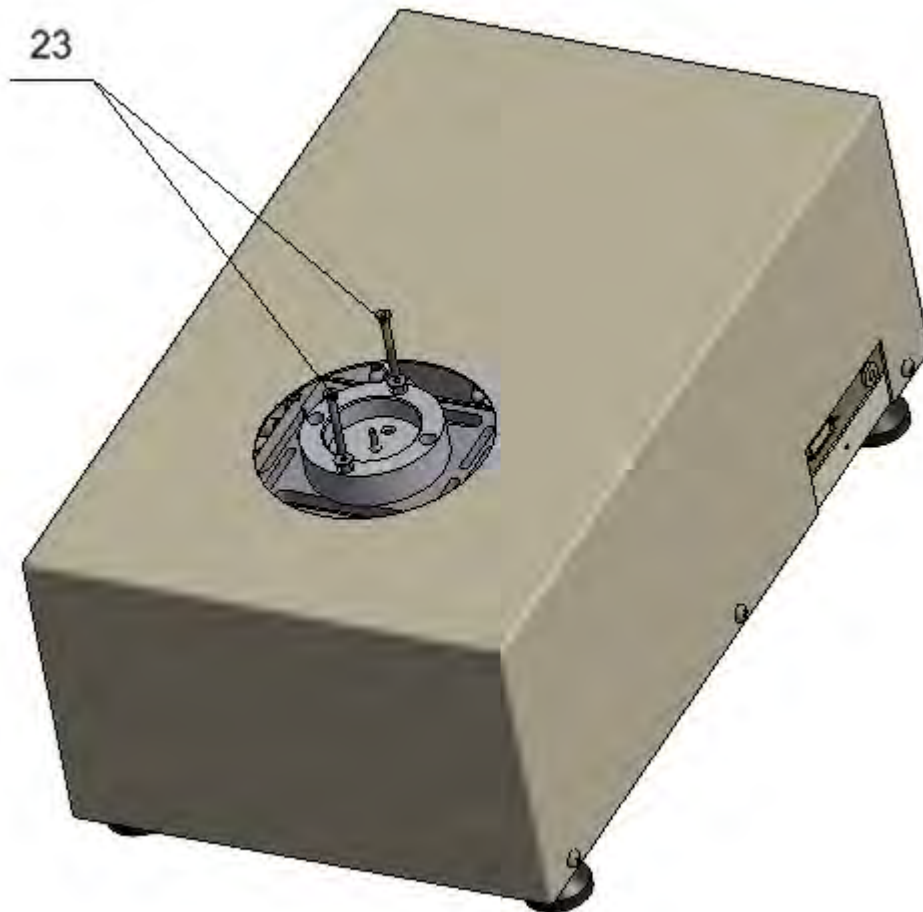

Fig.10
- 18. Unlock guide plates for self-centring pan undoing two M4 screws (2). (Fig.10)
- Use two M4 screws (23) to lock guide plates for self-centring pan. (Fig.10)